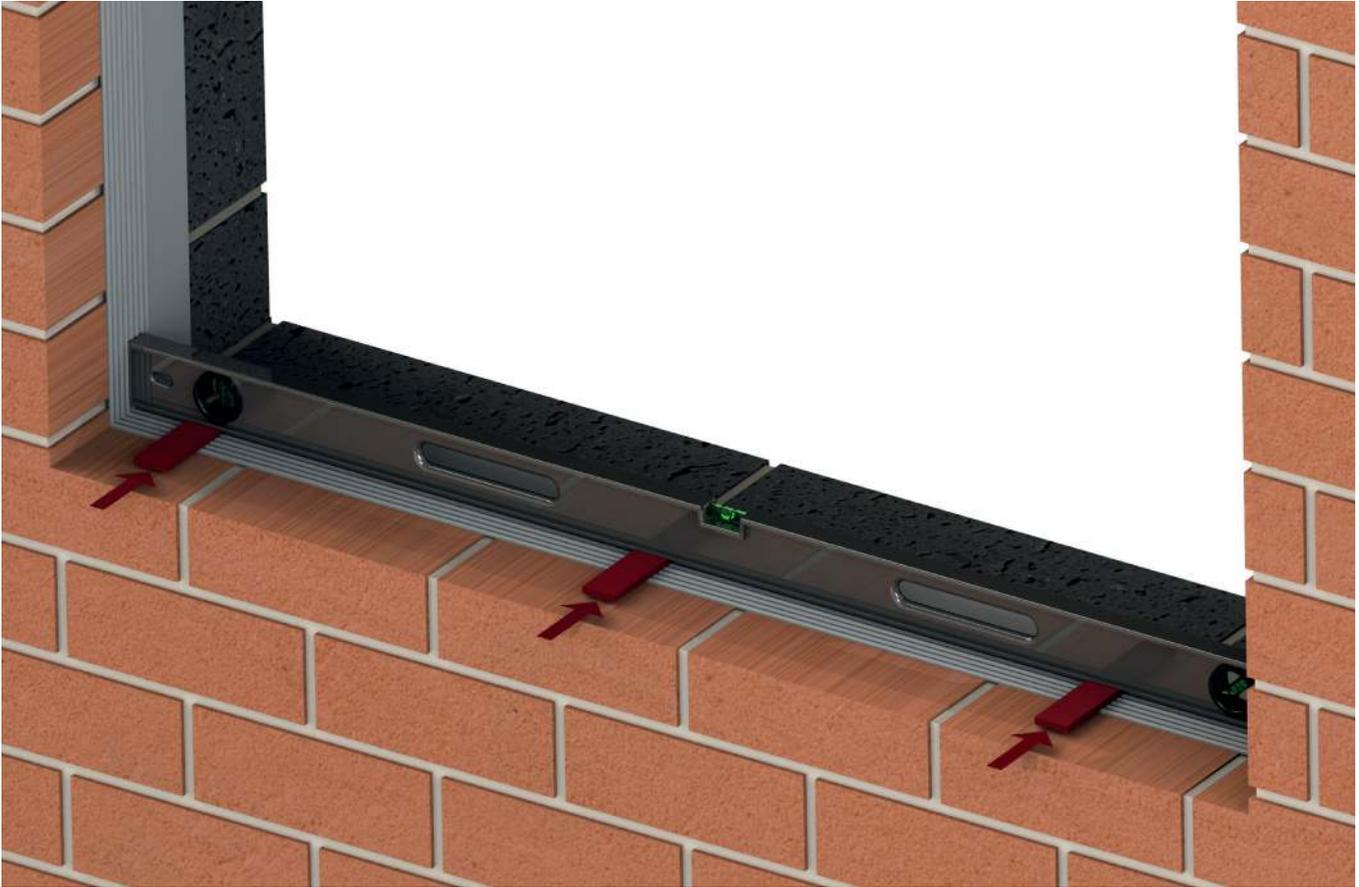

FIG 1
- ▶ 1.1. Place the correct frame packers spaced at a maximum of 500mm apart along the length of the opening to create a level, well supported platform for the track or cill to sit (Fig.1)